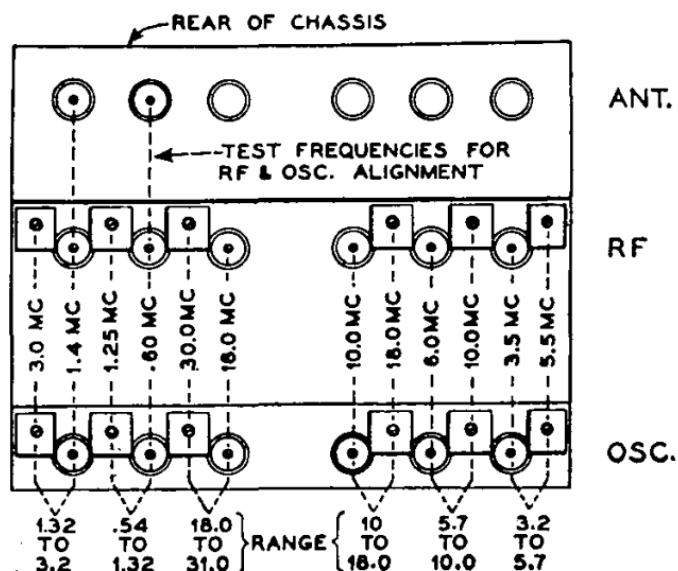

Fig. 9—Left: Diagram for tuning IF Amplifier, RF Stage and H. F. Oscillator.
As shown in the chart, Figure 9, the front row of adjustments control the H. F. oscillator frequency and consequently dial calibration.
3. Change signal generator frequency to 1.25 Mc as shown in Figure 9. Set MAINTUNING dial on 1.25 Mc to correspond. Adjust trimmer capacitor C73 to tune in signal, and C69 for maximum response.